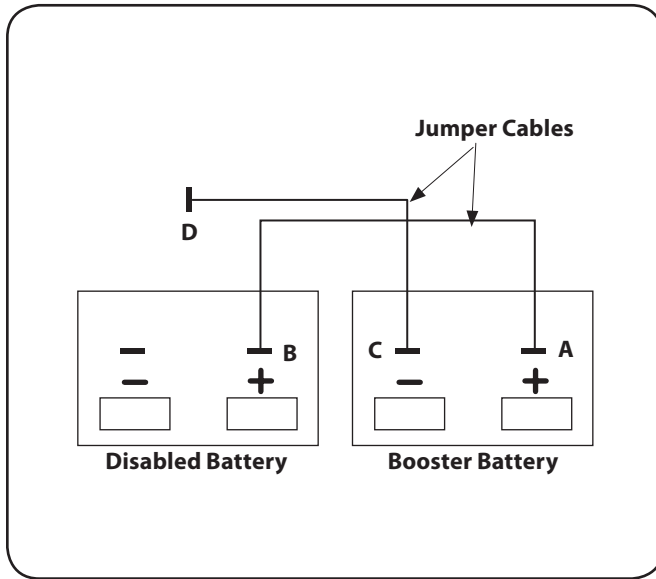

Figure 5-7
1. Connect positive (+) jumper cable to booster battery positive (+) post (A). See Figure 5-7.